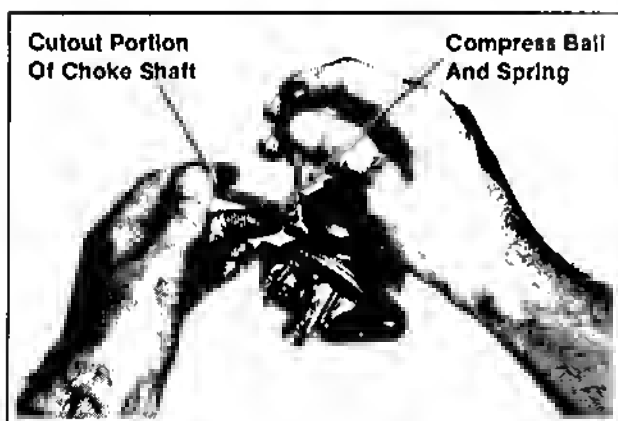

Figure 6B-11. Installing Choke Lever/Shaft.
2. Compress the detent ball and spring. Insert the choke lever/shaft assembly into carburetor body with the cutout portion of shaft facing the air cleaner mounting surface (refer to Figure 6B-11). Make sure the choke lever is on the correct side of carburetor body.